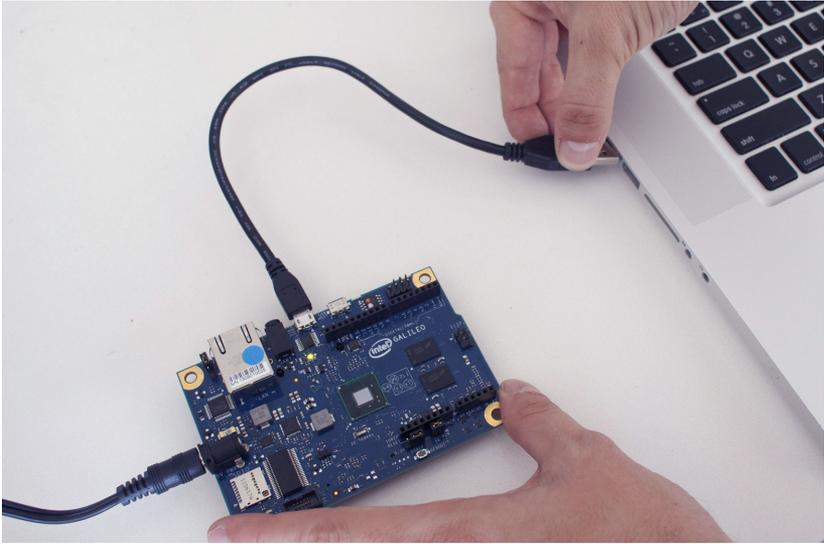

Figure 2-5. After connecting your Galileo to power using the AC power adapter, plug it into your computer via USB.
The next step is to power on the Galileo and connect it to your computer (Figure 2-5) so that you can upload your code to the board.
2. Then connect Galileo to your computer using a USB A to micro B cable. The cable will connect to the USB client port on the board, which is right next to the Ethernet port. See Figure 2-5.